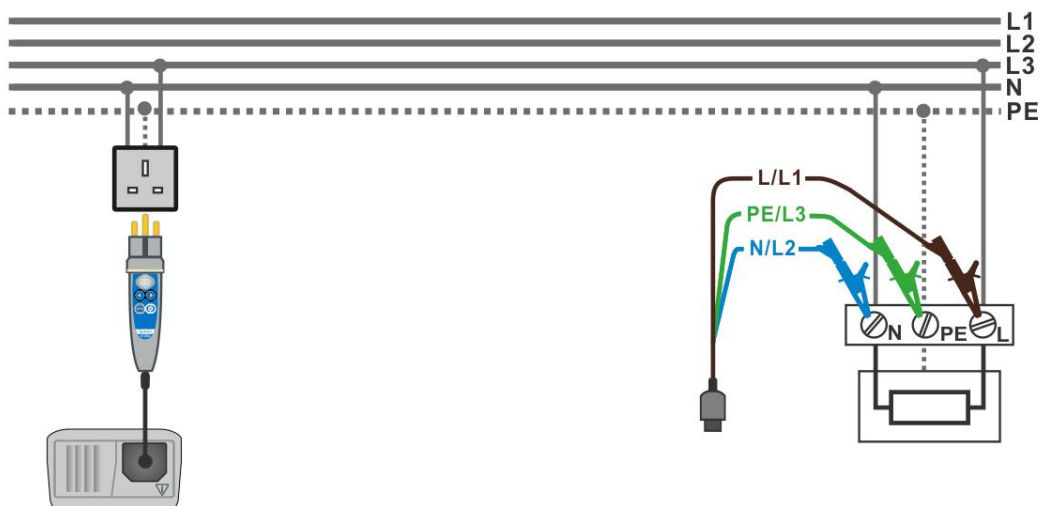

Figure 5.29: Connection of plug cable or commander and universal test cable
- ❑ **Connect** test leads to the item to be tested (see *figure 5.29 and 5.22*).